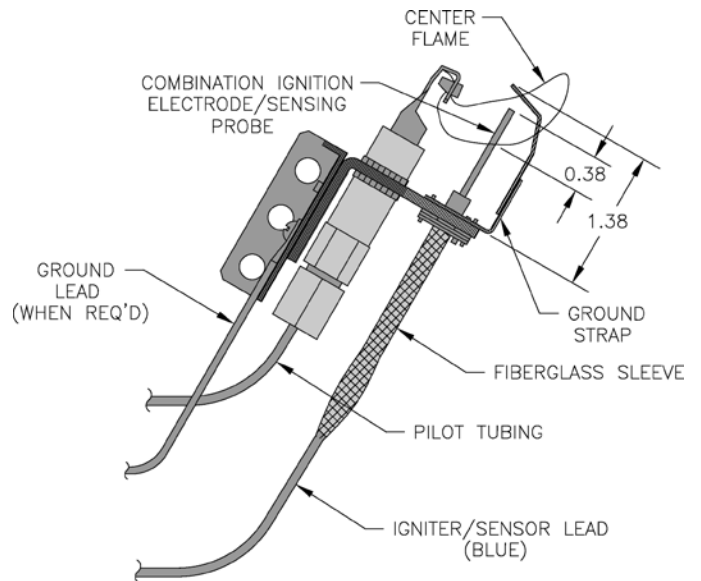

Figure 19: Pilot Burner Flame, Honeywell Q3481B, Models 20 through 100: Natural and LP Gas
1. See Figure 19. The pilot burner should be lit only if thermostat is calling for heat. The pilot burner produces three (3) flames. The center flame should be steady, medium hard blue enveloping 3/8 to 1/2 inch of thermocouple.